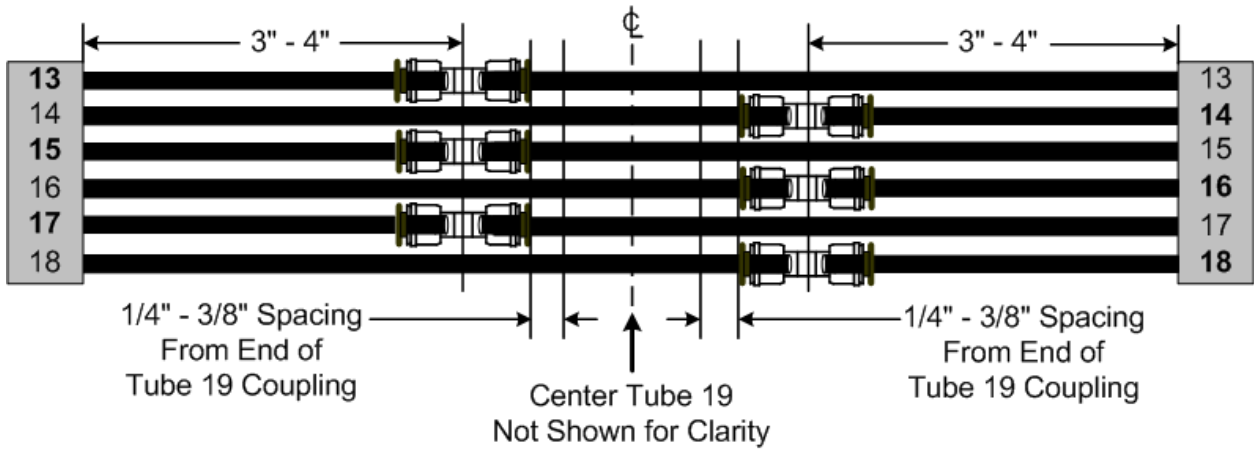

Figure 28
16.8 Locate and lay Inner Ring Tube 13 of first tube cable next to installed Tube 19 Coupling. **See Fig. 28.**
16.16 Repeat this procedure for Inner Ring Tubes 15 and 17 on one side of Tube 19 Coupling and for Inner Ring Tubes 14, 16, and 18 on the other side of Tube 19 Coupling. **Refer to Fig. 28.**